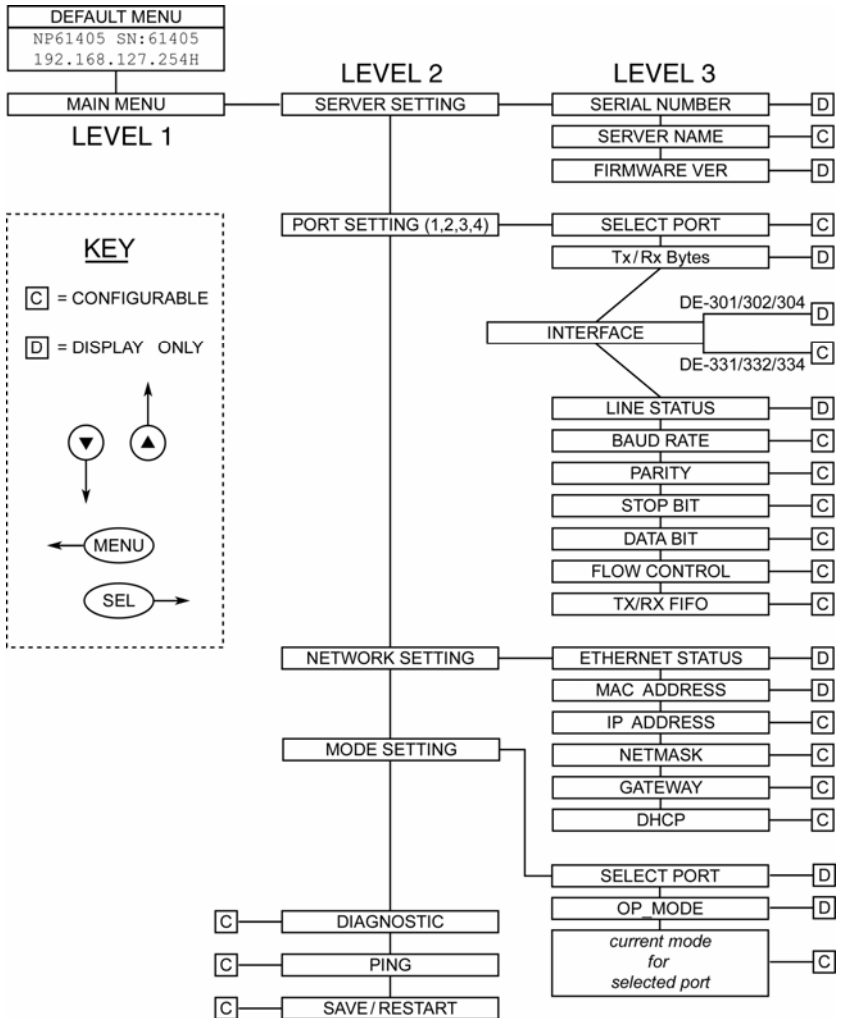

Figure 3-1: LCD Menu Tree
LCD control panel functions are organized into a hierarchy of menus, with a total of three menu levels. Please refer to Fig. 3-1 for the full menu tree.
- Note that Fig. 3-1 shows a C or D for all Level 3 menus: